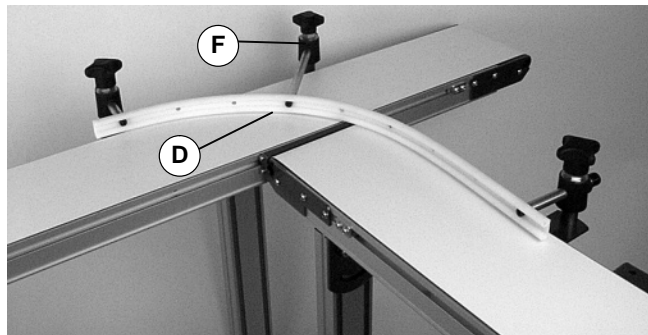

Figure 7
8. To stabilize guide (D of Figure 7), repeat steps 3 through 7 to install additional guide mount(s) (F), as required.